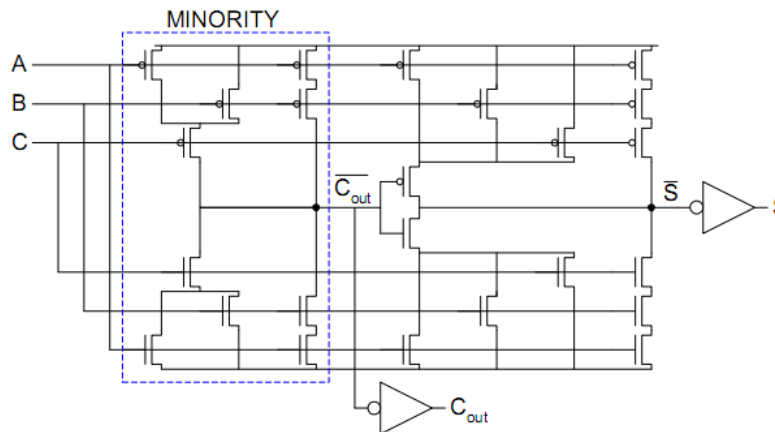

Figure 1: Structure of the Full-Adder
- Design a 1-bit Full-Adder in **layout**, using the structure shown in Figure 1.
- The Full-Adder in Figure 1 has three inputs (A, B, C) and two outputs (C_{out}, S), where $S = A \oplus B \oplus C$ and $C_{out} = AB + AC + BC$.